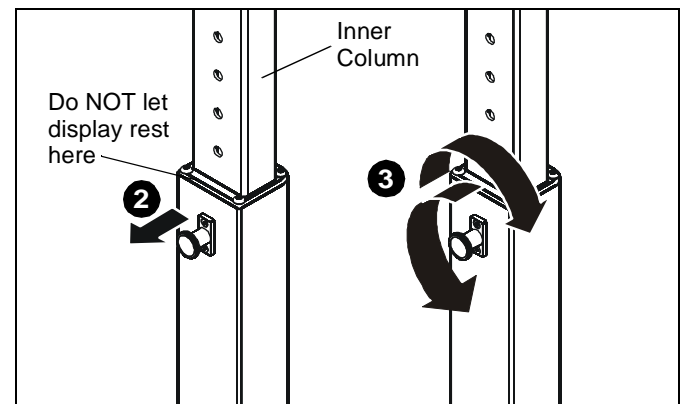

Figure 7
2. Adjust the cart to the desired height by slightly lifting the head assembly, pulling out knob on the center post and turning 90° in either direction to disengage the locking mechanism. (See Figure 7)
3. Raise or lower the center post, then turn the knob 90° either direction to engage the knob and lock the cart at desired height. (See Figure 7)
IMPORTANT ! : Set the height of the cart so the display does NOT rest on the lower part of the center post. (See Figure 7) Always set the height so the knob is engaged in a hole in the center post.